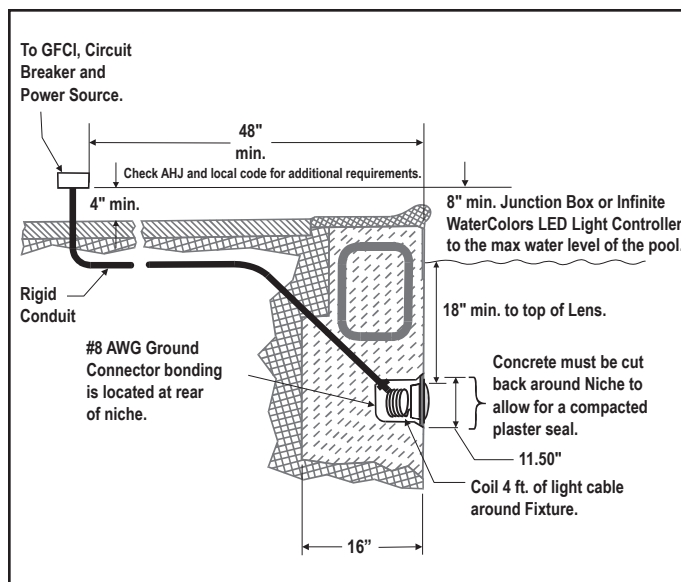

Figure 1. Jandy Infinite WaterColors Light Installation
NOTE The electrician must complete preparatory steps before light fixture is installed. See Figure 1.
1. The junction box or Infinite WaterColors LED Light Controller suitable for direct conduit connection to lights must be located at least (8) inches above water level, at least four (4) inches above ground level, and at least (48) inches (4) feet from the edge of the pool, or as required by local code, See Figure 1.
2. The light fixture and all metal items within five (5) feet of the pool must be properly electrically bonded to a reliable point of grounding.
3. The wet niche must be properly installed so that the top edge of the underwater light's lens is at least (18) inches below the surface of the water in the pool. See Figure 1.
4. The wet niche must be properly electrically bonded and grounded via the No. 8 AWG ground connector located at the rear of the niche. See Figure 1.
1. Feed cord through conduit to junction box, leaving at least four (4) feet of cord at the light fixture to coil into the base of the light niche, see Figure 1. The four (4) feet of cord allows the light to be serviced after the pool is filled with water.
2. Cut the cord at the junction box, leaving at least six (6) inches of cord to make connections.
3. Strip six (6) inches of the outer cord jacket to expose the three insulated wires. *Be careful not to damage the insulation on the three (3) inner wires.*
- The junction box or Infinite WaterColors LED Light Controller suitable for direct conduit connection to lights must be located at least (8) inches above water level, at least four (4) inches above ground level, and at least (48) inches (4) feet from the edge of the pool, or as required by local code, See Figure 1.
- The light fixture and all metal items within five (5) feet of the pool must be properly electrically bonded to a reliable point of grounding.
- The wet niche must be properly installed so that the top edge of the underwater light’s lens is at least (18) inches below the surface of the water in the pool. See Figure 1.
- The wet niche must be properly electrically bonded and grounded via the No. 8 AWG ground connector located at the rear of the niche. See Figure 1.
5. Leave at least four (4) feet of cord to coil around the light fixture or coiled into the base of the light niche, see Figure 1. This allows the light to be serviced after the pool is filled with water.
6. Cut the cord at the Junction Box, leaving at least six (6) inches of cord to make connections.
7. Strip six (6) inches of the outer cord jacket from the cord to expose the three insulated wires. *Be careful not to damage the insulation on the three (3) inner wires.*